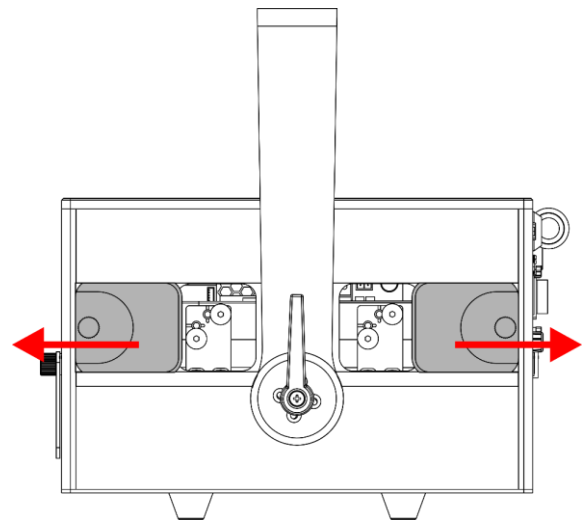

Fig. 16
- 02) Slide the 2 **cover plates (02)** to the sides of the device, as shown on Fig. 16, to access the **beam alignment screws (A)** and **(B)**.